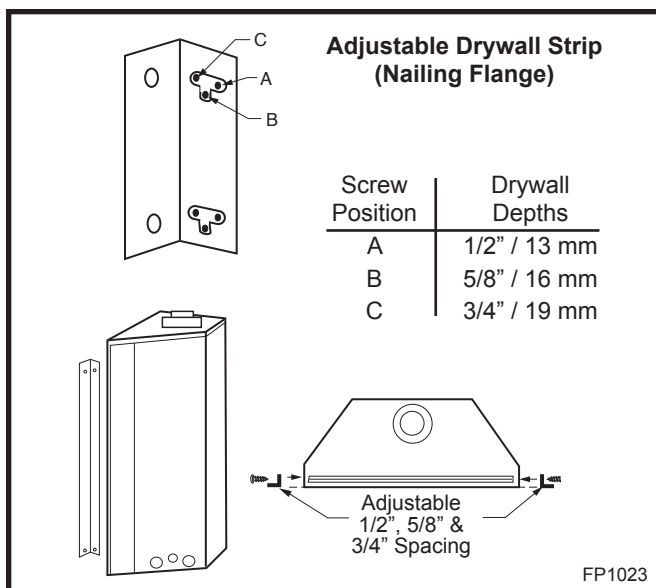

Fig. 4 Nailing flanges.
4. Attach the fireplace to the frame using the adjustable frame drywall strips (located behind the access door for shipping). Preset the depth to suit the facing material of the wall. The strips are adjustable to 1/2" (13 mm), 5/8" (16 mm) or 3/4" (19 mm). (Fig. 4)